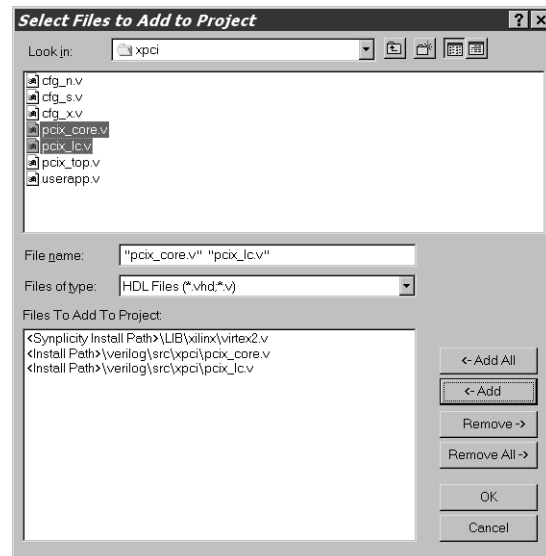

Figure 5-4: Files to Add (LogiCORE Files)
- Navigate to the xpci directory (Figure 5-4), select the simulation model and the wrapper files (pcix_core.v and pcix_lc.v), and click Add to move these files into the Files To Add list. (Ctrl + click to select multiple files.)